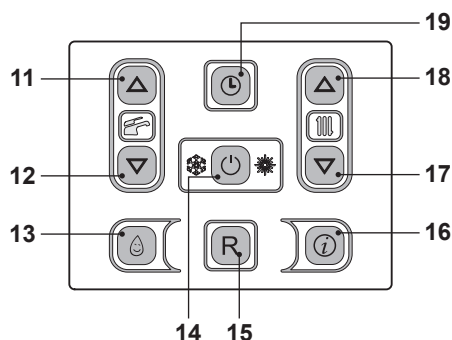

Fig. 2.7
Enter "programming mode" by holding down key 19 for 5 seconds (Fig. 2.7) until the display indicates the ⌚ symbol.
Use keys 17 (decrease) and 18 (increase) Fig. 2.7 to set the time, day and date values, using keys 11 and 12 to move from one parameter to the next.
- Press the key 14 for 2 seconds until both  and  symbols appear on the display Fig. 2.7.